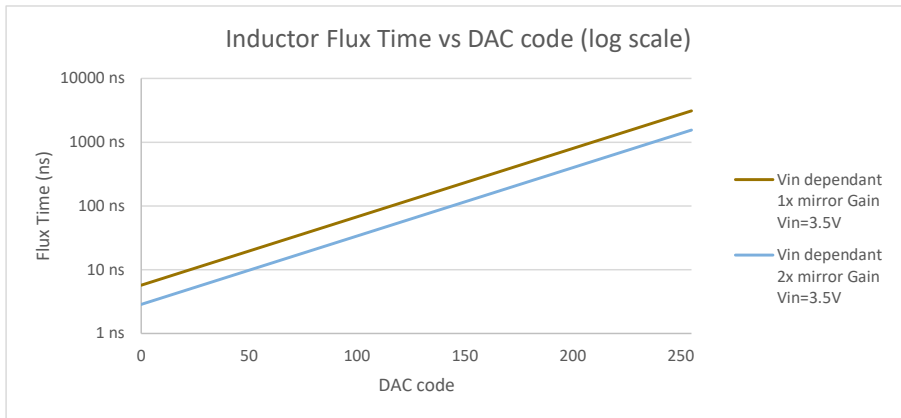

Figure 8: Inductor Flux Time vs. DAC Code
- 2). The Flux time "Tflux(ns)" is controlled by register 0x10 with 2.5% steps from 5ns to 2.8μs as shown in *Figure 8*.
The graph below Figure 8 shows the inversely proportional behaviour of the Flux Time to the V_{in} voltage. The orange curve has longer Flux time due to the lower V_{in} voltages (3.5V for the 5V setting).